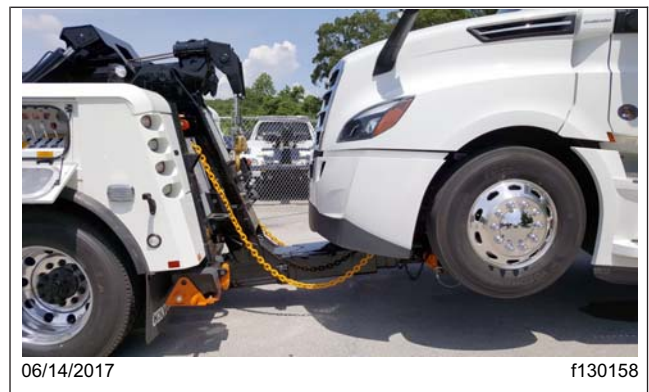

Fig. 24.18, Safety Chains Connected on the Towed Vehicle
17. Connect the safety chains. See Fig. 24.18.